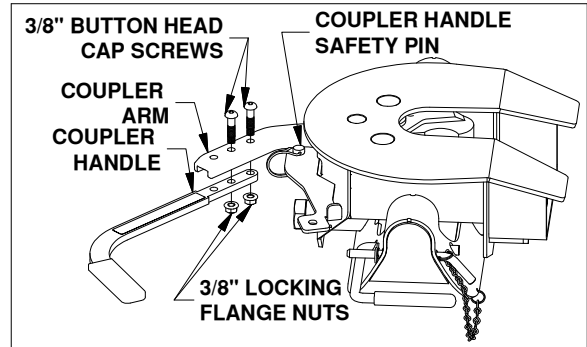

FIGURE F1: View looking down at side of coupler.
- Open coupler.** Locate the two 3/8" x 1-1/4" button head cap screws and the two 3/8" flanged lock nuts provided in a bolt bag. Pull out the coupler arm and pin it with the safety locking pin near the base of the arm, as shown in Figure F1.
- Secure handle.** Using the button cap screws and the lock nuts attach the coupler handle to the arm and tighten, see Figure F1. Pull out the coupler handle safety pin.